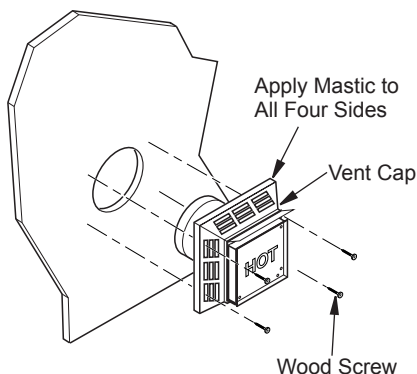

Figure 10 - Installing Horizontal Vent Cap (Noncombustible Exterior)
6. **Noncombustible Exterior Wall:** Position horizontal vent cap in center of 8 1/2" round hole and attach to exterior wall with four wood screws provided (see Figure 10). Before attaching vent cap to exterior wall, run a bead of non-hardening mastic (pliable sealant) around outside edges to make a seal between it and outside wall. *Note: Four wood screws provided should be replaced with appropriate fasteners for stucco, brick, concrete or other types of sidings.*